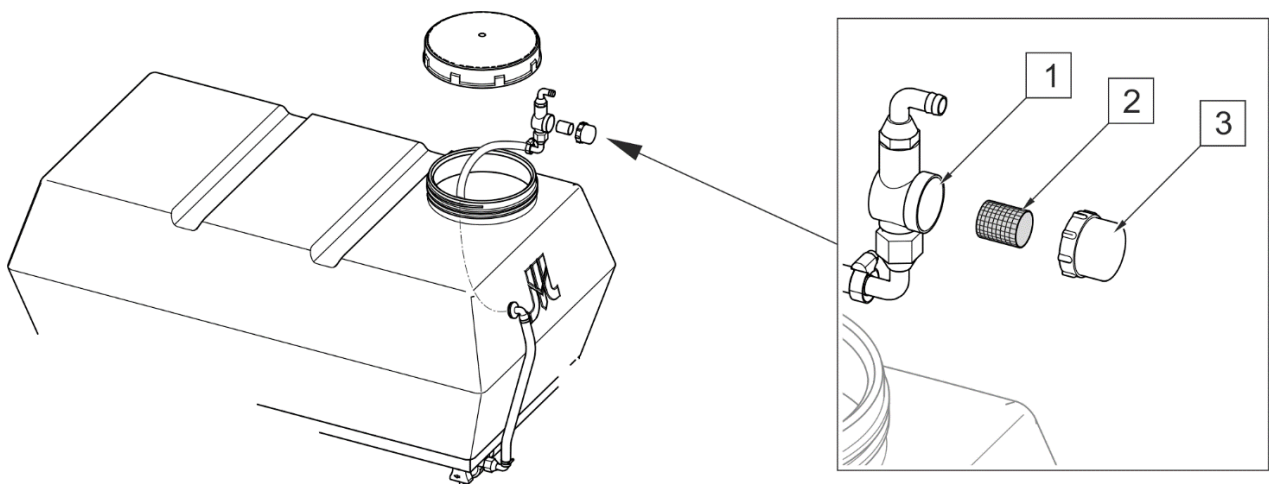

FIG. 5.10 Filter in water tank
(1) - filter housing; (2) - mesh cartridge; (3) - cover
In the tank there is a water filter (FIG. 5.10) installed on suction conduit (applies to pump with part number 2095-161-2401). In order to clean the filter, take it out together with the conduit through the tank opening, unscrew cover (3), remove mesh cartridge (2) and wash it with water under pressure or clean with compressed air. Install cartridge, tighten filter housing and